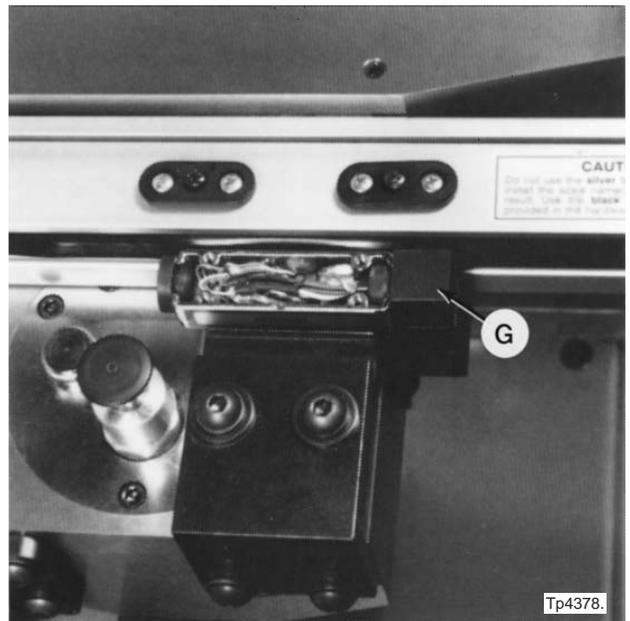
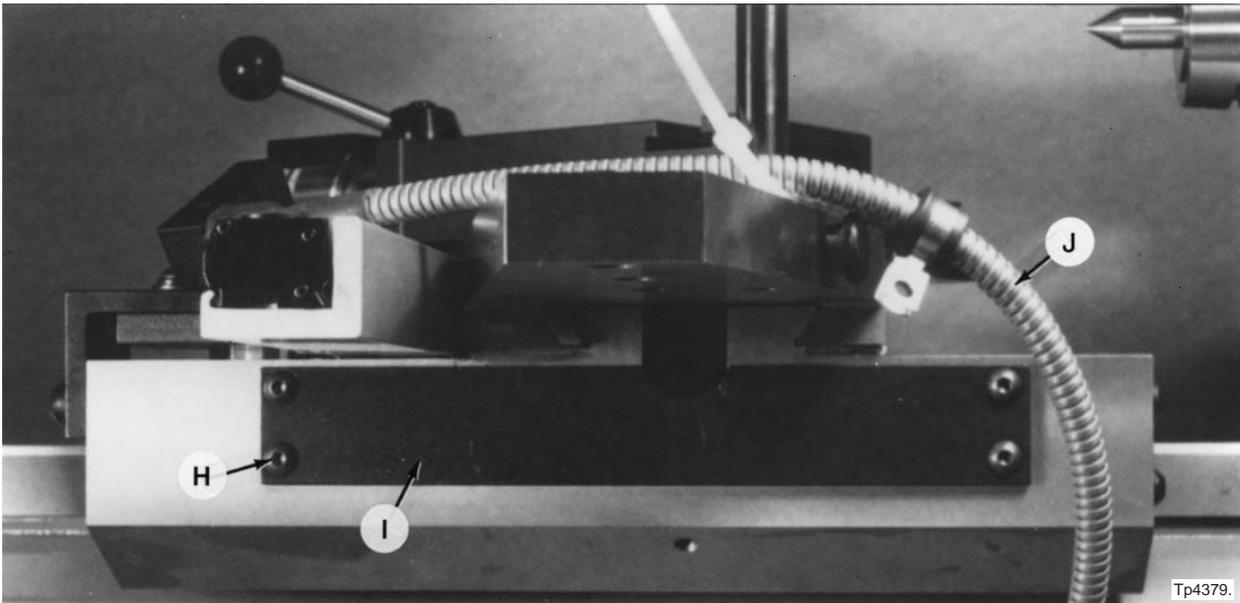

Figure 1.52 - Reader Head Cable Connector
Figure 1.53 - Reader Head Cable Secured
If the machine is equipped with an Acu-Rite® III Digital Readout, it will be necessary to remove part of the digital readout system to gain access to junction block cover “I”, Figure 1.53 .
**Use extreme care when handling reader head cable "J", Figure 1.53 . Rough handling may result in damage to the reader head wiring.**
13. Gently lift reader head cable connector "G", Figure 1.52, and reposition reader head cable "J", Figure 1.53, as shown, to gain access to lubricator junction block cover "I".
**The reader head cable MUST be secured to eliminate the possibility of the cable moving. Damage to the reader head wires may result if the cable is allowed to move. Refer to Figure 1.53 .**
14. Secure the reader head cable as shown in Figure 1.53 .
28. Install cover "I" using four screws "H", Figure 1.53 .
30. Hold cable "J", Figure 1.53, while releasing it
31. Gently reposition cable connector "G", Figure 1.52 .
33. Remove any slack in cable "J", Figure 1.53, between cable connector "G", Figure 1.52, and cable clamp "F", Figure 1.51 .